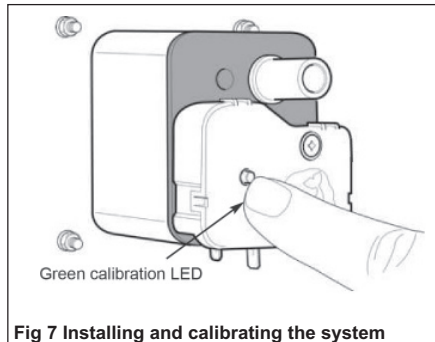

Fig 7 Installing and calibrating the system
- Step 1 - Press and hold the calibration button until the green LED starts to flash after 1-3 seconds (Fig. 7)